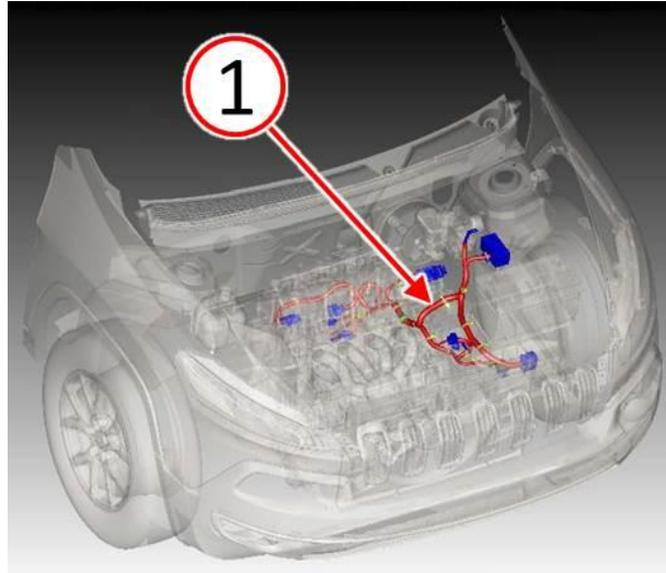

Fig. 1 Area Of Concern
1. Follow the transmission wire harness from the Power Distribution Center (PDC) towards the transmission (1) to locate the wire harness retainer clip positioned about 12 inches from the PDC connection (Fig. 1).
2. Near the transmission harness retainer clip location, inspect for any contact (1) between the transmission shift cable bracket (3) and the transmission electrical harness (2) (Fig. 1).